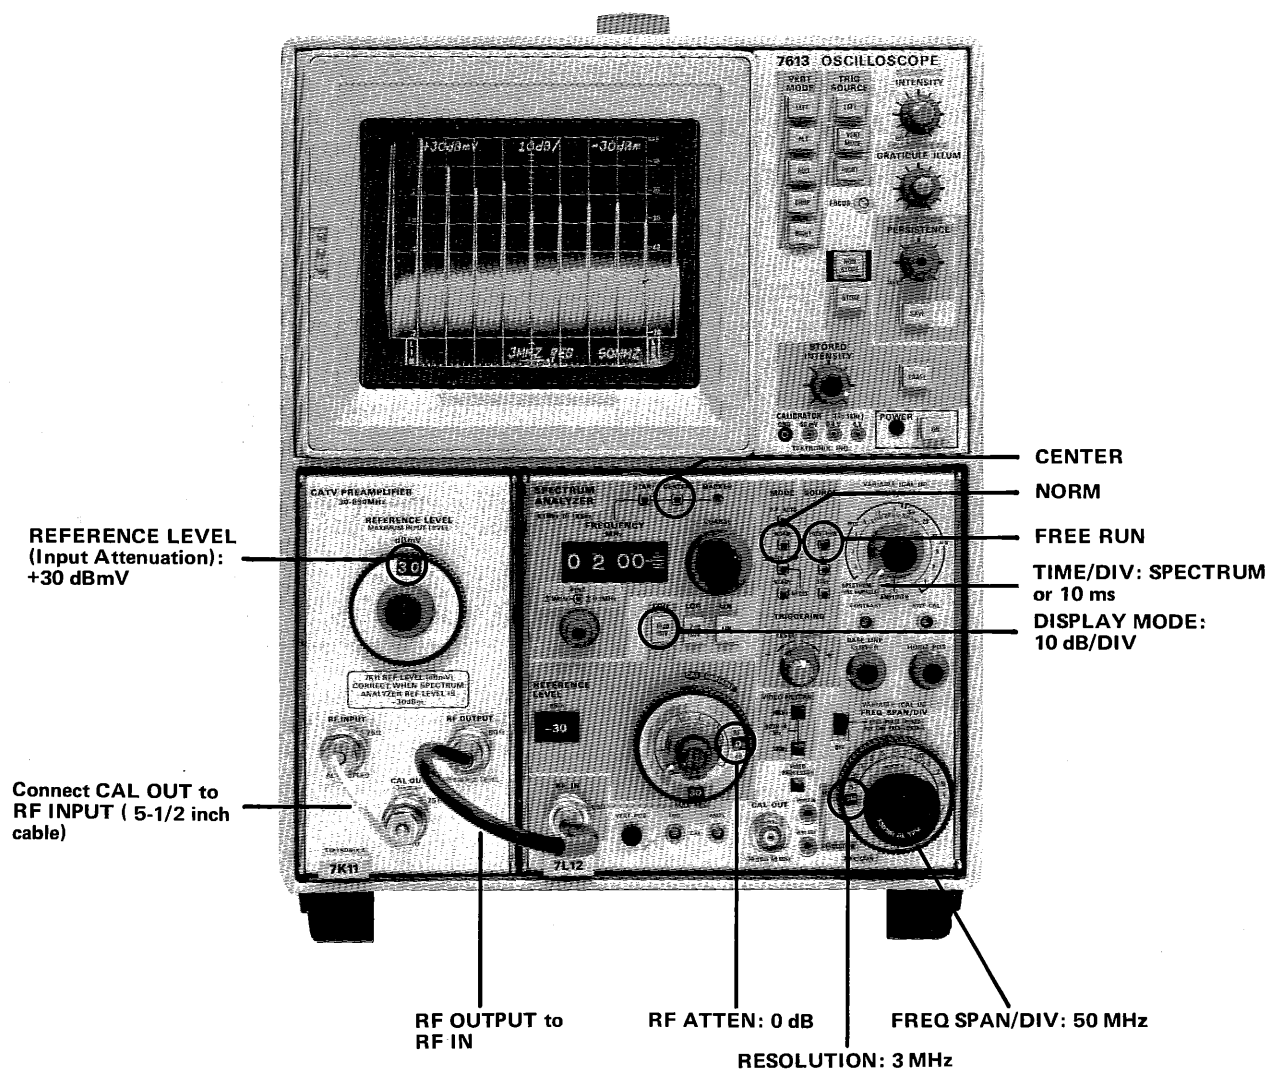

Fig. 2-1. Initial setup, showing control and selector positions.
b. Connect the 7K11 and Spectrum Analyzer as shown in Fig. 2-1 and turn the power on.
g. Now depress the 10 dB/Div (LOG) display push-button on the analyzer. Display should now resemble that shown in Fig. 2-1.